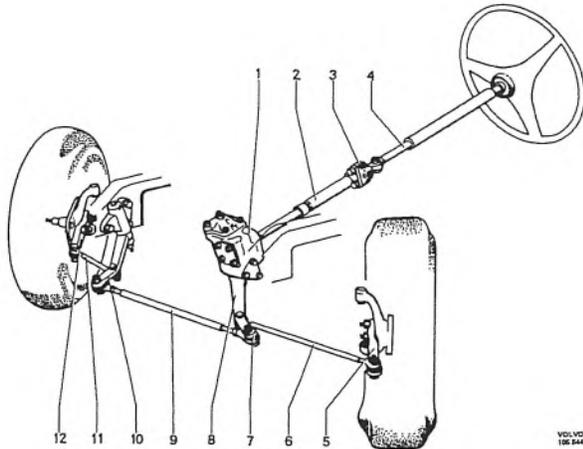
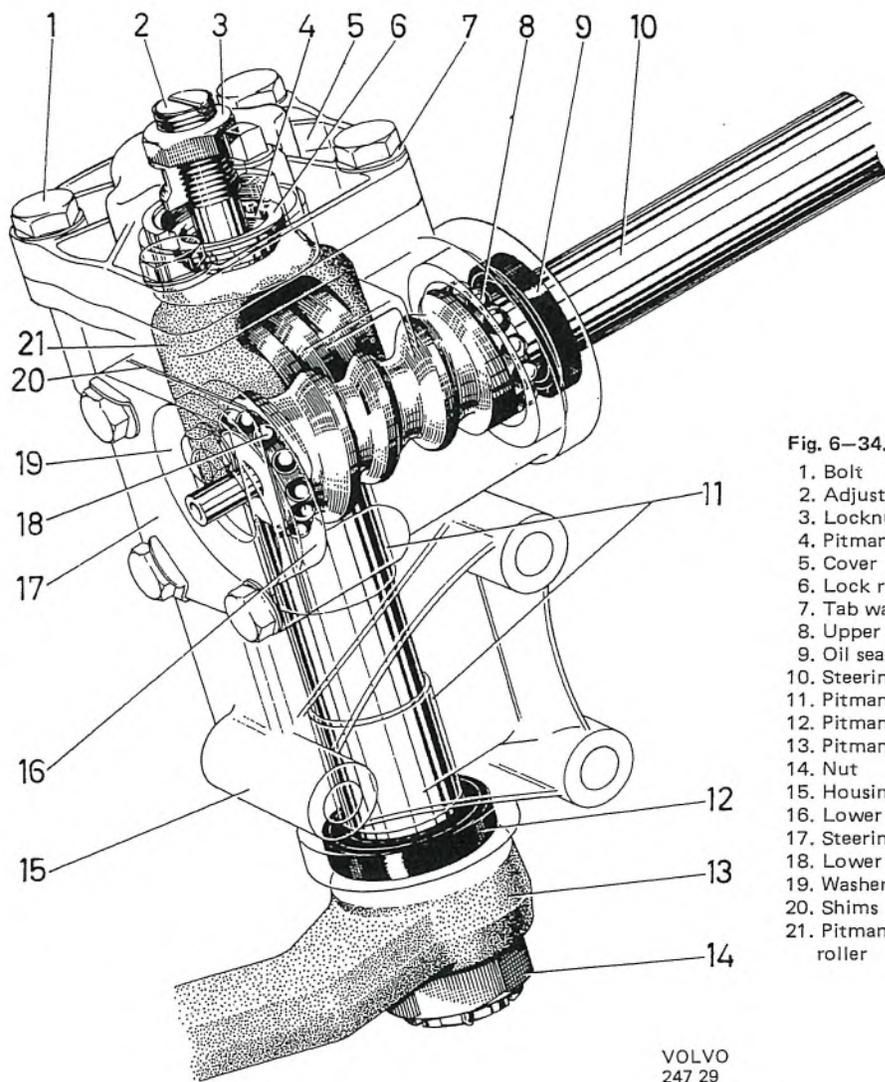

Fig. 6-32. Steering gear
Fig. 6-34. Steering housing
The construction of the steering gear is shown in Fig. 6-32. Steering wheel movement is transmitted to the wheels through the steering column (4), steering housing (1), pitman arm (8), tie rod (9), steering rods (6 and 11) and steering knuckles. The gear in the steering housing (Fig. 6-34) is of the "worm and roller" type. The steering cam is carried in two ball bearings and the pitman arm shaft in three bushes.